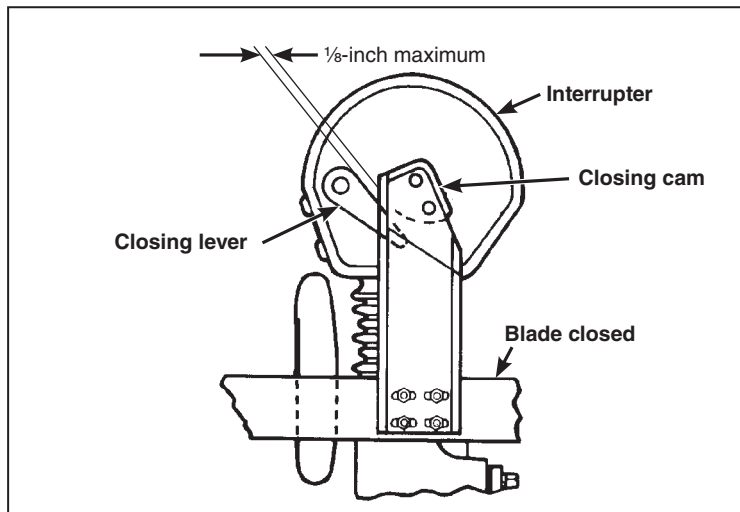

Figure 43. The blade assembly in fully Closed position.
- (c) When the blade is in the fully **Closed** position, each blade-closing cam must overlap its respective interrupter-closing lever to prevent inadvertent opening of the interrupter. Clearance between the blade-closing cam and its respective interrupter-closing lever must be within the limit shown. See Figure 43.